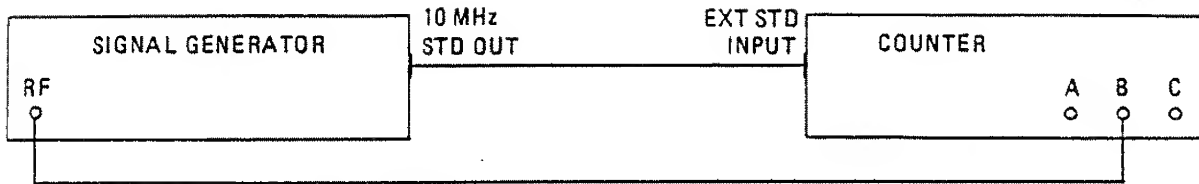

Fig. 6.10A Connections for Input B Sensitivity PVP (I)
- (1) Select 50 ohms for Input B.
- (2) Connect the test equipment as shown in Fig. 6.10A. Verify that the EXT STD LED lights.